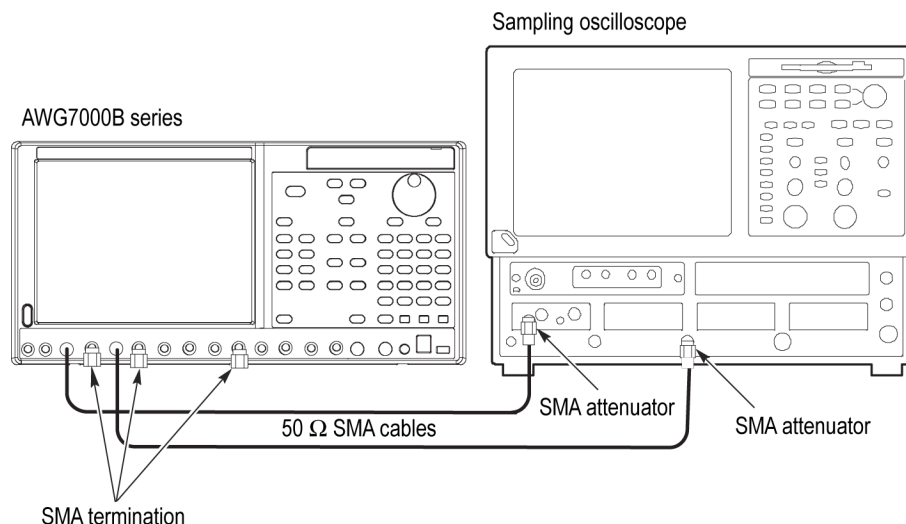

Figure 5: Inter-channel skew calibration initial hookup
- Connect an SMA cable from the Channel 1 Marker 1 (+) Output on the front panel of the arbitrary waveform generator to the TRIGGER DIRECT INPUT of the sampling oscilloscope using the 12 dB SMA attenuator. (See Figure 5.)